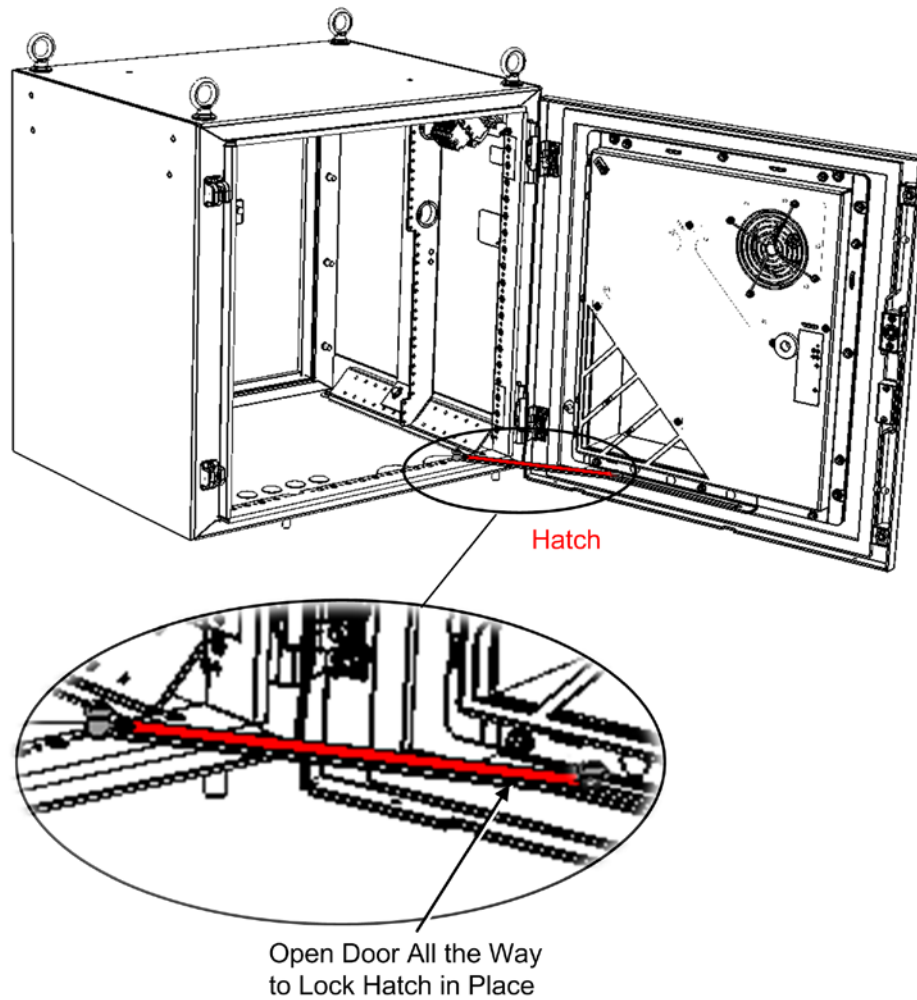

Figure 4-14. Opening Cabinet Door and Locking in Place
**⚠ ATTENTION!** Make sure that the door hatch locks into the door rail. See Figure 4-14.